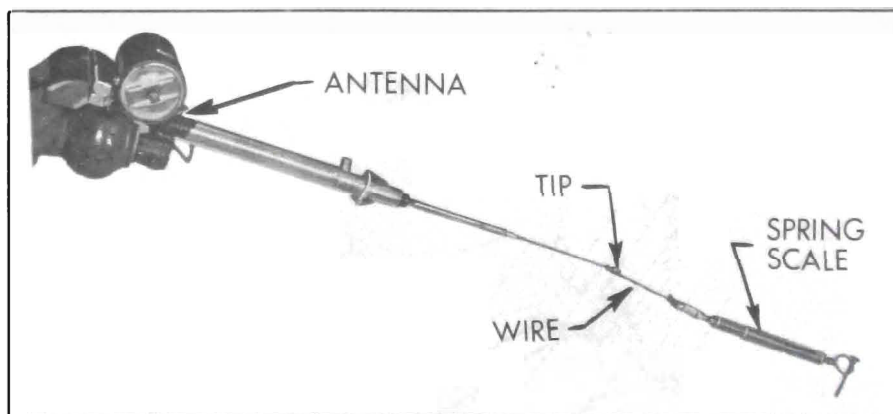

Figure 11-17—Antenna Ready for Adjusting Test
3. Connect one end of a wire securely to the mast just below the tip and the other end to a 25 lb. capacity spring scale. Secure the spring scale to the bench so that the center line of the scale is in line with that of the mast assembly. See Figure 11-17.